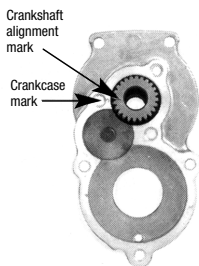

Figure 7
a. The crankshaft alignment mark should line up with the crankcase mark when the crankshaft is at the top dead center. Refer to **Figure 7**.